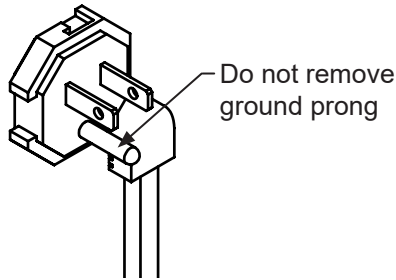

Figure 2
- Do not remove the grounding prong from the power cord. (See Figure 2).